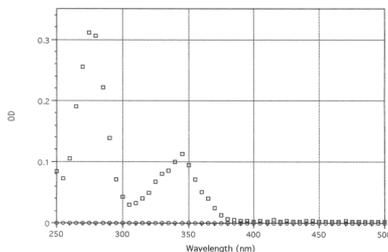

Figure 3. Absorption scan of pyrene muscle actin in solution.
4. The absorption scan for pyrene actin shown in Figure 3.